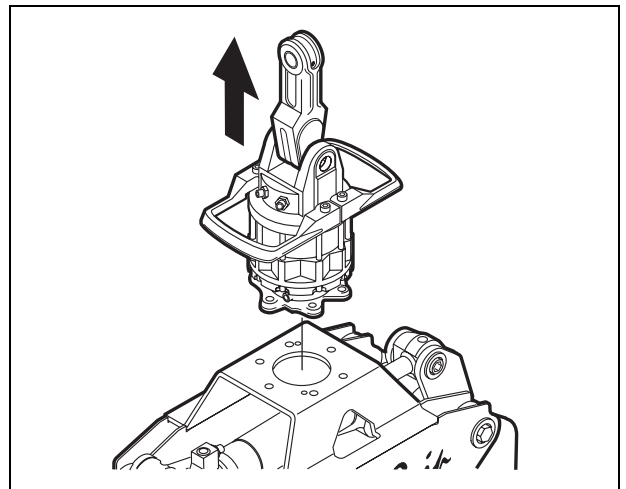

Fig. 15 Remove the rotator
2. Remove the rotor. *See Fig. 15.*